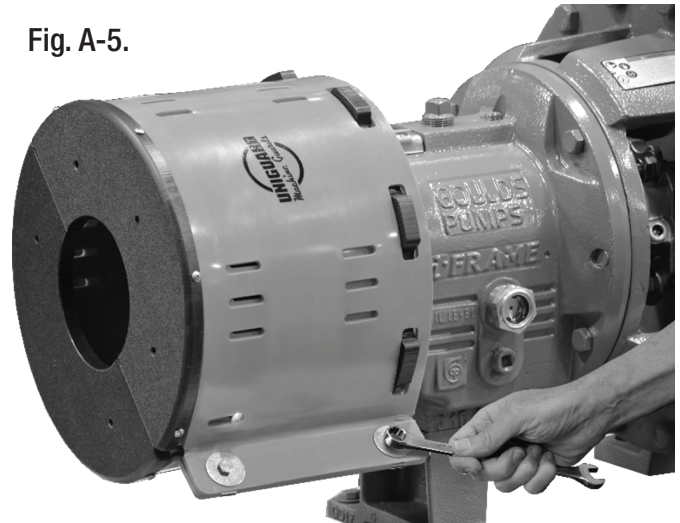

Fig. A-5.
4. Ensure that all cogs and openings are seated securely, then close guard and tighten 3/8" captive fastener bolts securely as shown in Fig. A-5.